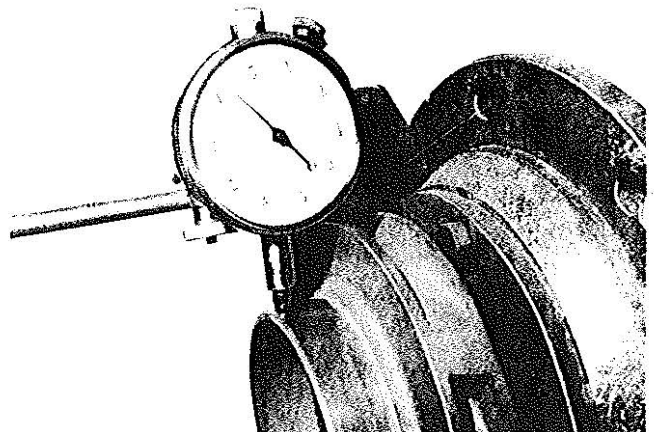

Fig. 11
44. Slide seal assembly (10) onto shaft (28) but do not yet butt sleeve to slinger (31).
45. Install spacer (9) on shaft against seal spring retainer. **NOTE:** Relief in spacer (9) is towards the impeller.
46. Slide key (5) into keyway of shaft (28) and install impeller (7) on shaft being sure key (5) fits properly between impeller (7) and shaft (28).
47. Replace impeller nut (4) turning clockwise. This will make up seal faces. Make sure that in this operation the slinger (31) makes up square. **NOTE:** The rubber bellows of the rotating seal element is designed to take a sealing set to the sleeve. It is therefore essential that steps 43 thru 46 be accomplished with the least time delay as practicable —otherwise the seal faces will not properly mate.
48. Check concentricity of rotating element, using a rigidly supported dial indicator. Take readings on impeller hub. Rotate the shaft slowly by hand. If it turns freely and the total indicator reading does not exceed .004 inch, the assembly is accurately aligned (Fig. 11).